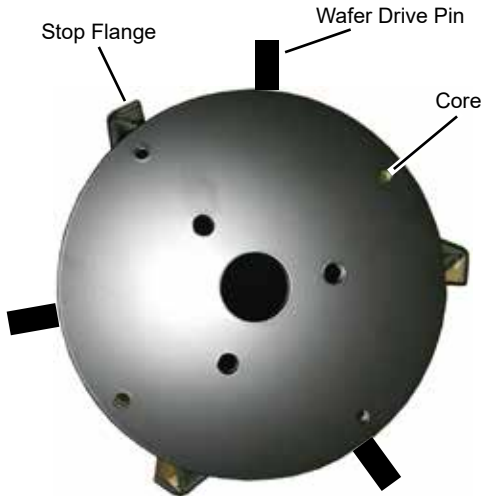

Figure 6
2. Remove (3) 1/2-13 x 1" capscrews, lock washers and splined hub from one end of core. Retain hub and mounting hardware. See Figure 6.
3. Remove (4) 5/16-18 x 3/4" capscrews, lock washers and end disc (wafer retainer plate) from one end of core. Retain end disc and mounting hardware. See Figure 6.
5. Install end disc (wafer retainer plate) on core with original hardware. See Figure 6.
6. Install splined hub on core with original hardware. See Figure 6.
7. Slide end bearings onto hubs. See Figure 6.